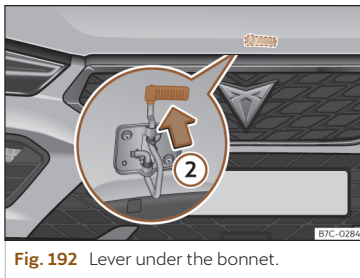

Fig. 192 Lever under the bonnet.
- To lift the bonnet, press the release catch under the bonnet upwards >>> **Fig. 192** ②. The arrester hook under the bonnet is released.